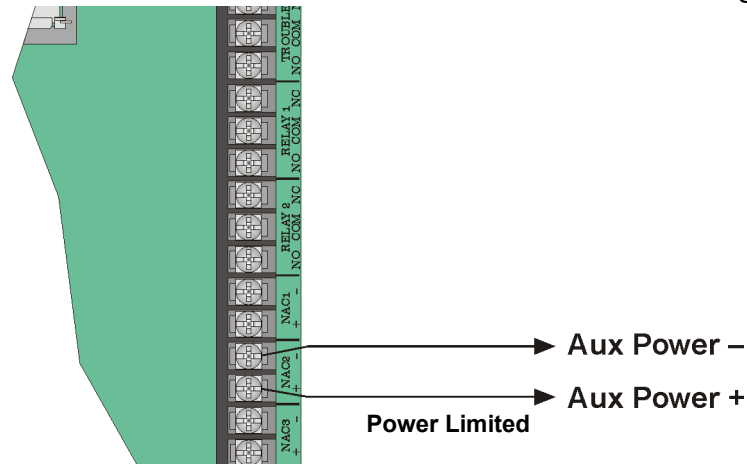

Figure 5-13 Auxiliary Power Output
1. Wire the PWR terminals of the SD500-ANM to NAC terminals. See Figure 5-13.